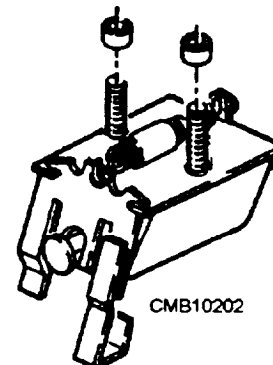

Figure 5-19.—Electrical shutoff.
- The **electrical shutoff** (fig. 5-19) is available as either an energized to run (ETR) or energized to shut off (ETSO) model. In either case it will control the run and stop functions of the engine by positively stopping fuel flow to the pump plungers, thereby preventing fuel injection.